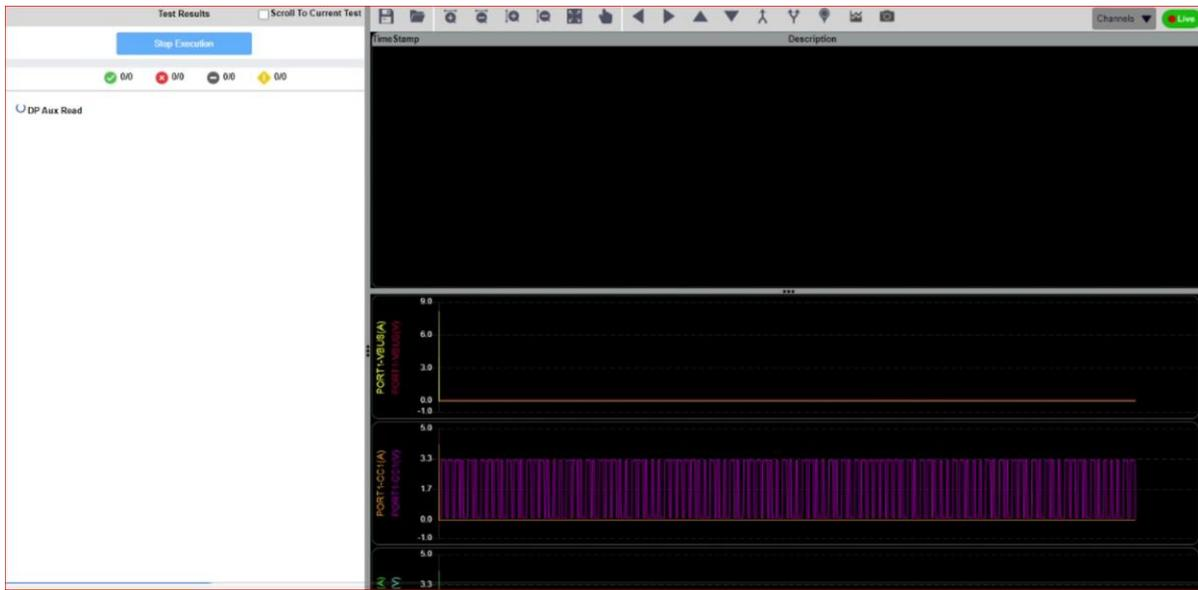

FIGURE 3.4: START SIGNAL CAPTURE IN RESULTS SCREEN EXAMPLE
- At the “Signal Capture” field, click on the **Start** button  to start running signal acquisition in the *Results* screen as shown in Figure 3.4 example.